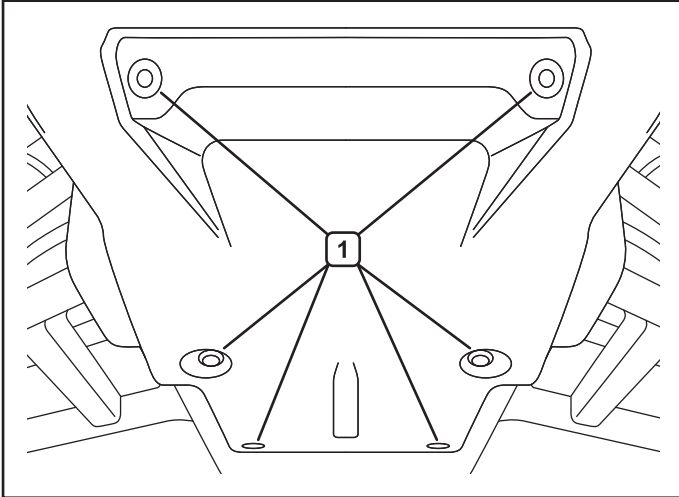

Figure 1. Plastic bumper cover removal – all Wolverine models
**Wolverine/Wolverine X2/Wolverine X4:** Remove six bolts (1) to remove plastic bumper cover. See figure 1.